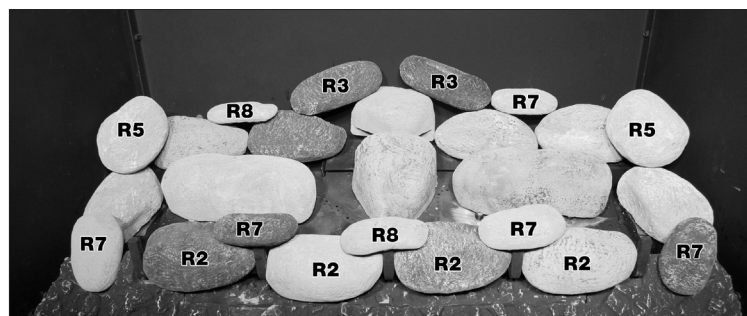

Figure 7.5, Completed Installation
- 9. Place the rest of the rocks as shown in Figure 7.5. Distribute additional rockwell embers once completed.